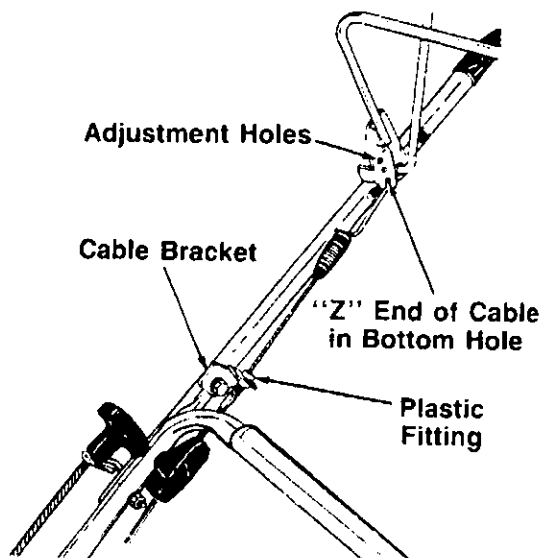

FIGURE 7.
1. The drive clutch cable is attached to the drive cover, and has a spring on one end. Route the clutch cable inside the handle mounting bracket and under the lower handle. Hook the spring on the end of the cable into the bottom hole on the drive clutch control handle. See figure 7.
If there is not 1/8" of clearance, unhook the cable from the clutch handle and move it to the next higher adjustment hole provided. Refer to figure 7. Check to be certain there is 1/8" of clearance when the clutch is disengaged, and the drive pinions mesh with the wheels with the drive clutch engaged.